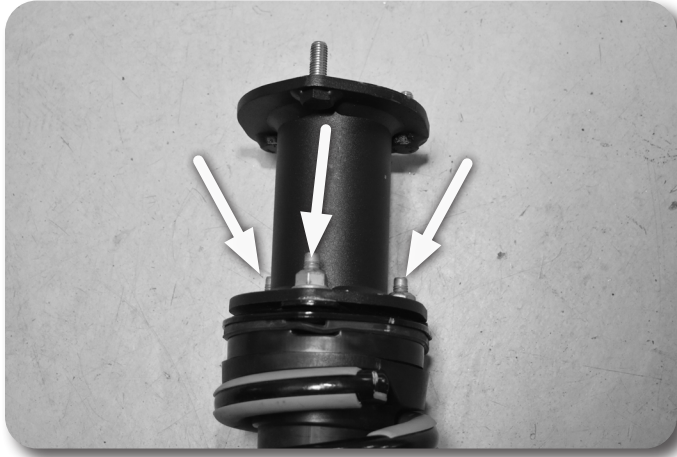

Figure 47
79. For 4" and 6" kits install the provided strut spacers on the struts with the OE strut mounting hardware. Torque nuts to 46 ft-lbs. Fig. 47